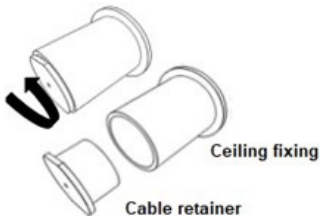

Fig. 1
- Unscrew the cable retainer from each of the ceiling fixings (see Fig. 1)